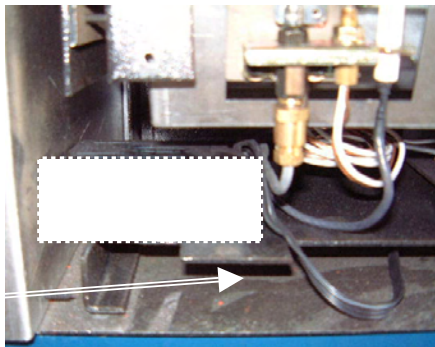

FIG. 6
8. Position the remote control receiver below the burner (see section 3.1 FIG.6)
Place the remote control receiver in the bottom left corner of the unit before you mount the decorative frame (check FIG. 6).
Slide the cable between the outer casing and the bottom of the combustion chamber. (check FIG. 6).